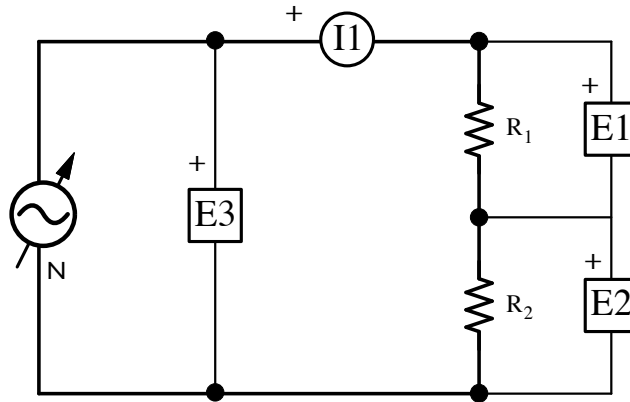

Figure 1.6: Voltage Divider Circuit
- 23. Add E1 and E2 to measure the voltage drop across resistors R_1 and R_2 , as shown in Figure 1.6, and adjust the source voltage to **100 V** with the voltage control knob.